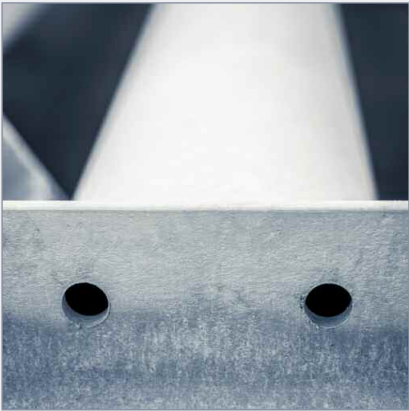
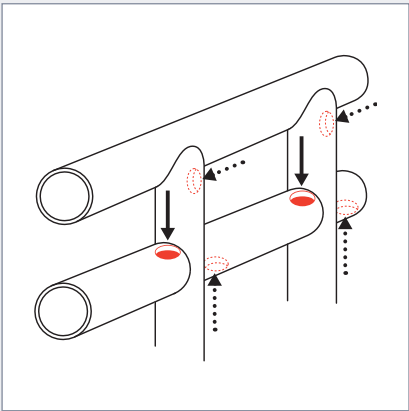
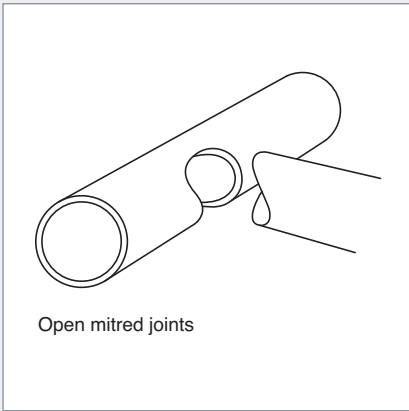
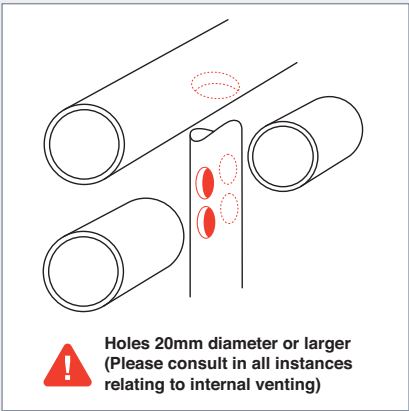

**Fig. 4**
Fig. 15
Fig. 16
Fig. 17
**Welded pipe sections.** Closed sections must never be incorporated. External holes may be positioned (as in fig. 15), enabling our galvanizing experts to make a quick visual inspection to ensure the work is safe to galvanize. Sections can be interconnected using open mitred joints (as in fig. 16), or interconnecting holes drilled before fabrication (as in fig. 17). Pipe ends can be left open or plugged after galvanizing (see unwanted vent holes below).
- With hollow sections sealed at the ends, holes should be provided, again diagonally opposite one another, as near as possible to the ends of the hollow member (fig. 15). In some cases it may be more economical to provide ‘V’ or ‘U’ shaped notches (fig. 4) in the ends of the tubes, or to grind the corners off rectangular hollow sections. These procedures will provide ideal means for venting and draining.